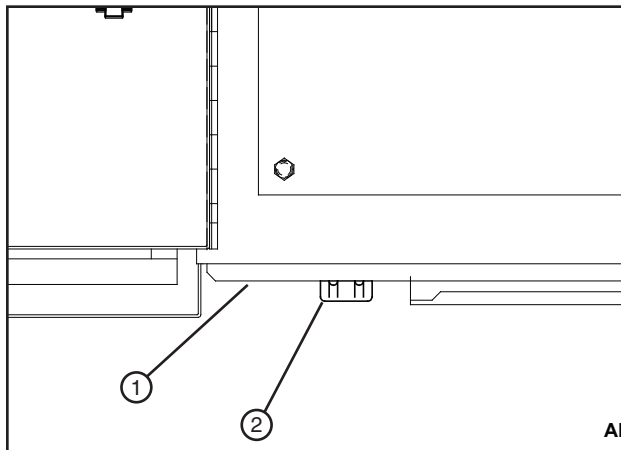

Figure 12-3 1. Bottom of Control Panel 2. Cord Connector
- Remove one 1/2" knockout from bottom of control panel and install cord connector. See figure 12-3.